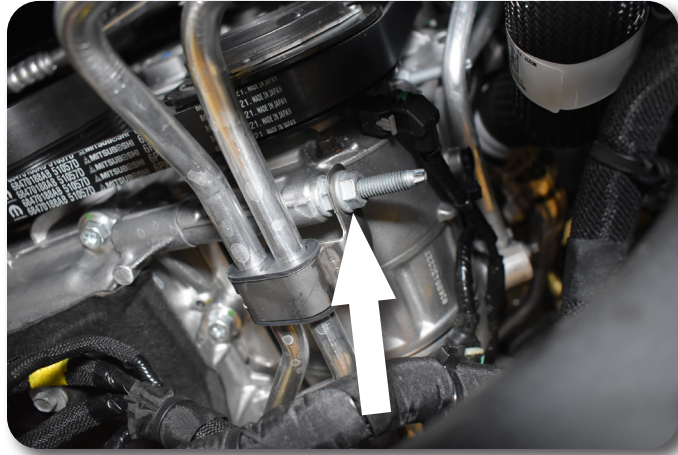

Figure 17
40. **Trucks with 3.0L I6 Hurricane Engines:** Disconnect three transmission coolant line brackets to allow better access when removing the differential mounting bolts. Front bracket uses a 13mm wrench or deepwell socket, and a 6" minimum extension. Fig. 17, 18. Start at the first bracket near the A/C compressor following the lines rearward. Save hardware for reinstallation.